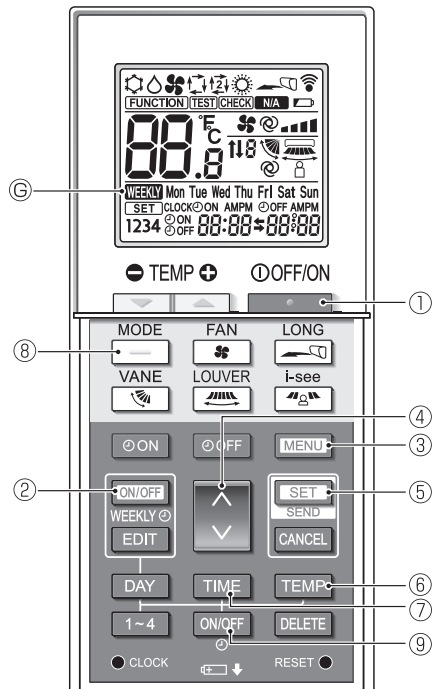
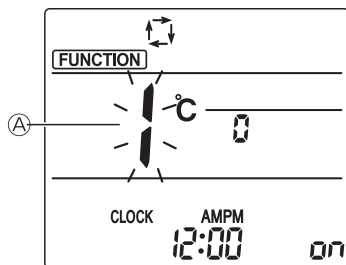
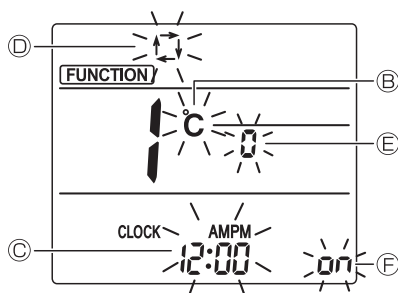

Fig. 3-1
Fig. 3-2
Fig. 3-3
1. Switching to the initial setting mode (Fig. 3-1, Fig. 3-2)
- Press the **STOP** button ① to stop the air conditioner.
- If the weekly timer is enabled, press the **ON/OFF WEEKLY** button ② to disable the timer. (**WEEKLY** Ⓒ disappears.)
- Press the **MENU** button ③.
- The Function setting screen will be displayed and the function No. ① will blink.
- Press the **UP** button ④ to change the function No.
- Check that function No. "1" is displayed, and then press the **SET** button ⑤.
2. Changing the temperature unit (Fig. 3-1, Fig. 3-3 Ⓑ)
- Press the **TEMP** button ⑥.
- Pressing the **TEMP** button ⑥ changes the temperature unit (°C / °F). (The factory setting is "°C".)
3. Changing the time display (Fig. 3-1, Fig.3-3 Ⓒ)
- Press the **TIME** button ⑦.
- Pressing the **TIME** button ⑦ changes the time display (12:00 / 24:00). (The factory setting is "12-hour format".)
4. Changing the AUTO mode (Fig. 3-1, Fig.3-3 Ⓓ)
- Press the **AUTO** button ⑧.
- Pressing the **AUTO** button ⑧ changes the Auto mode (Single / Dual). (The factory setting is "Single set point".)
5. Changing the pair No. (Fig. 3-1, Fig.3-3 ㊦)Press the  button ㊦.